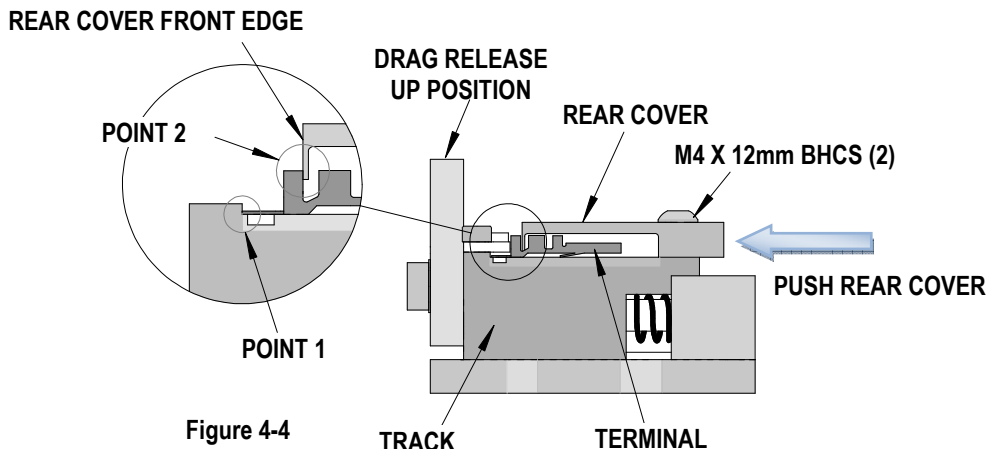

Figure 4-4
4. With an 8-10" long strip of terminals installed in the track, push the rear cover towards the front of the track to eliminate any excessive play between points 1 and 2. See Figure 4-4.